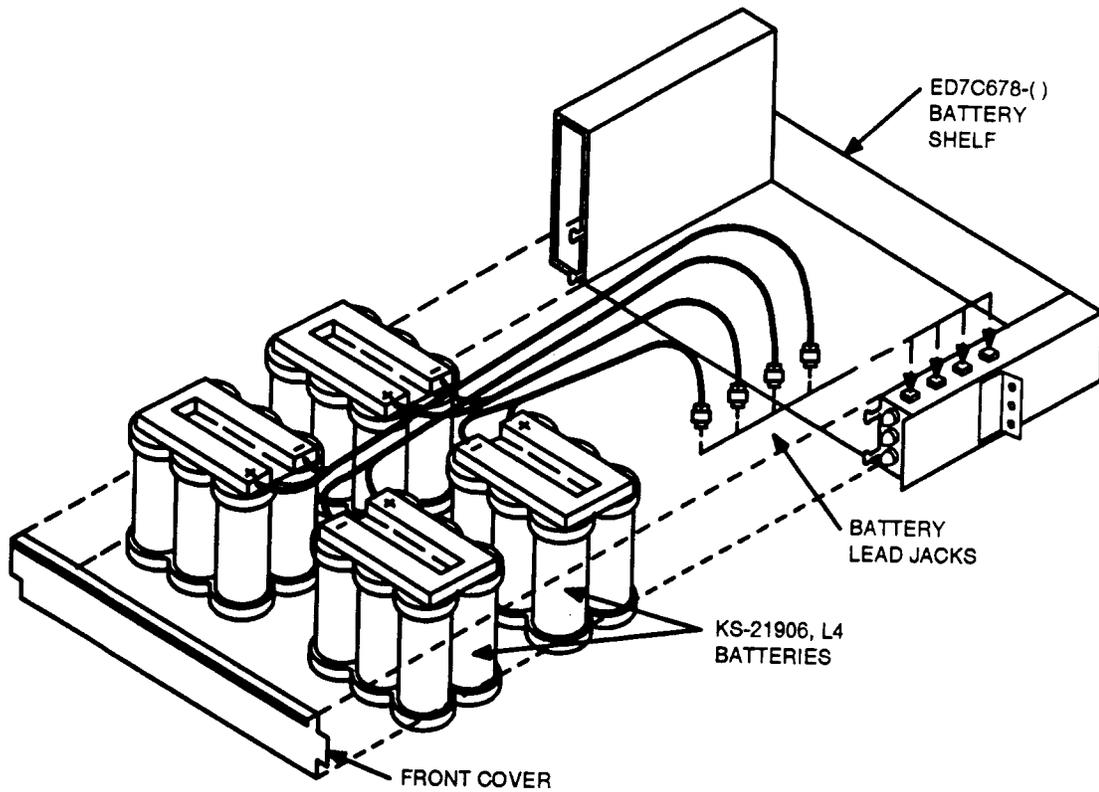

Figure 2 — Battery Placement and Connections
4. Place batteries on battery shelves and dress battery cables as each battery pack is placed on shelf (Figure 2).